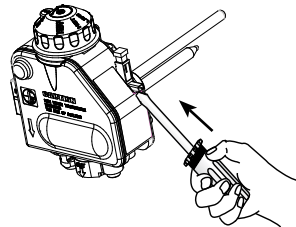

Figure 1
- 4) Remove the old igniter from the gas valve making lever with the a flat screwdriver of appropriate size, as shown in Figure 1 & 2. Discard the old igniter.